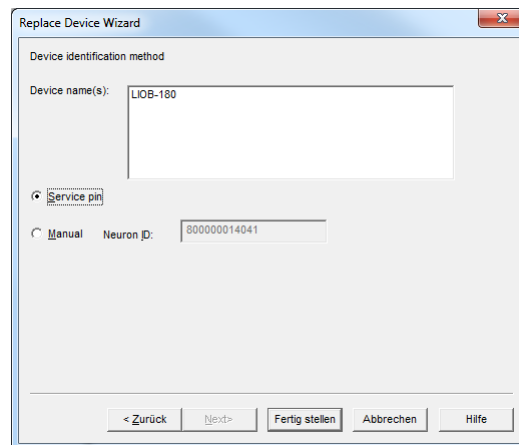

Figure 103: Select Service Pin and click Finish
6. Select the **Service pin** method and click on **Finish** as shown in Figure 103.